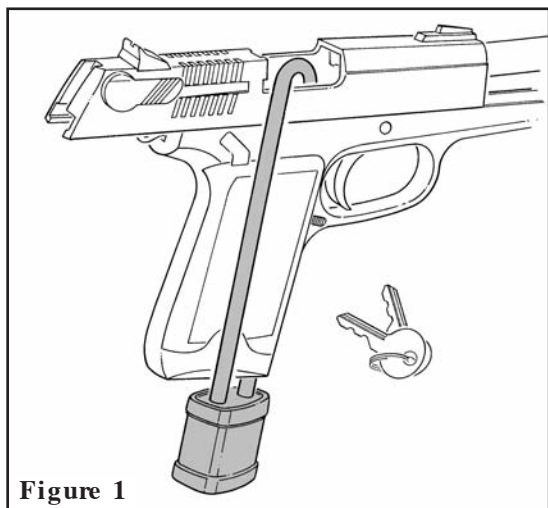

Figure 1
4. In the case of a P-Series Pistol, remove the magazine from your pistol and apply the locking device by placing the shackle of the lock into your pistol as shown in Figure 1.